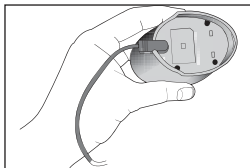
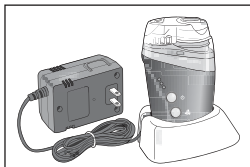

Fig. 1
Fig. 2
2. Insert the AC adapter directly into the underside of the housing, Fig 1. For hands-free operation, use with the included base, Fig 2.